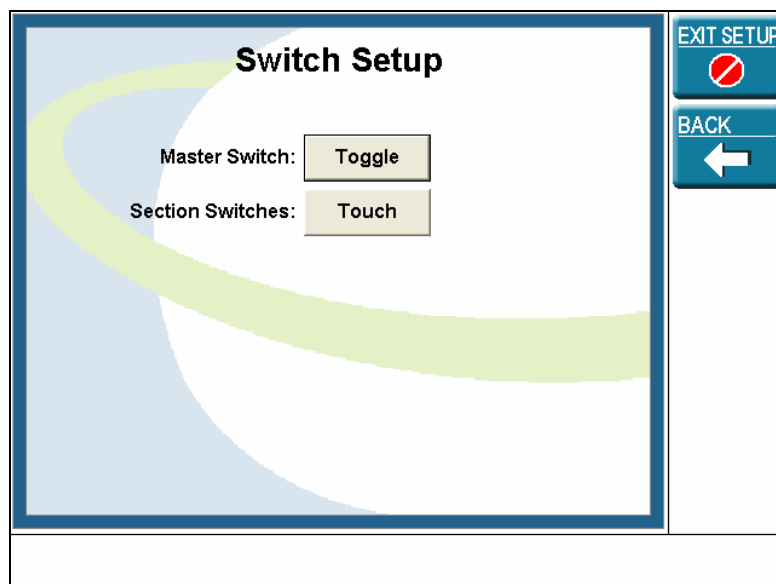

Figure 6-8: Switch Setup Window
- 8) Set Master Switch to **TOGGLE** as shown in Figure 6-8.